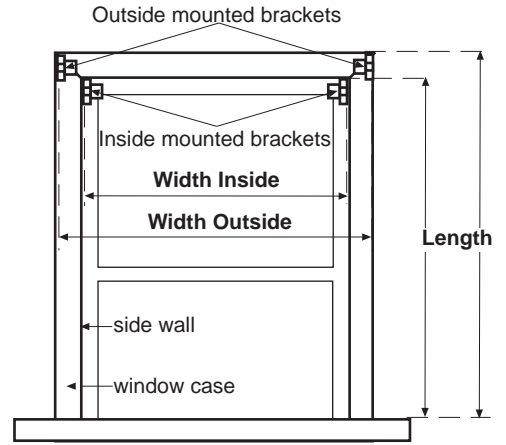
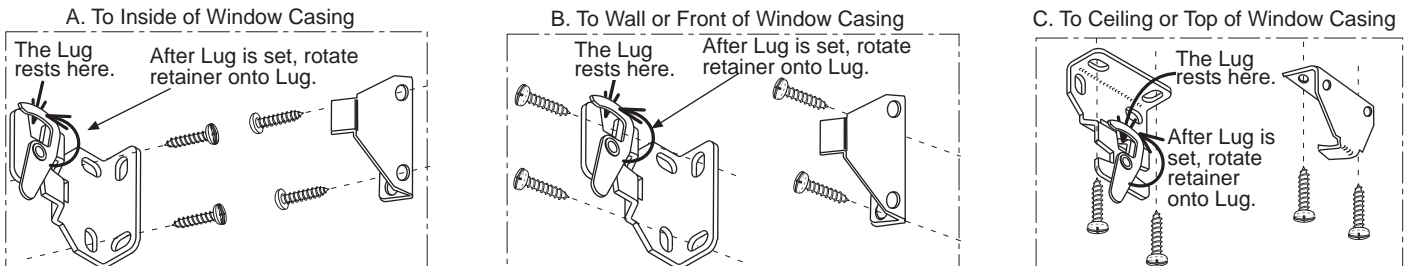

Figure 5. Measurements on a window
Figure 7. Install Brackets
Step 1. Measurements (see Fig. 5)
Step 5. At the job site, install the brackets on the window casing according to Fig. 5. If brackets are going to be mounted inside the casing, try to position them as close to the window as possible yet have enough space for the roller shade when completely rolled up. If the clutch is on the right end of the shade, attach the brackets to the window casing, wall, or ceiling, as shown in Fig. 7. If the clutch is on the left end of the shade, reverse the brackets, left and right.
Step 7. To install, push shade clutch straight onto the blade of its bracket. The bottom of the clutch should always point straight down. Lower the lug of the end plug onto the "V" of its bracket. The roller should fit in the brackets securely, with just a little play. Rotate the riveted retainer portion to lock the lug in position (See Figures 7 and 8).